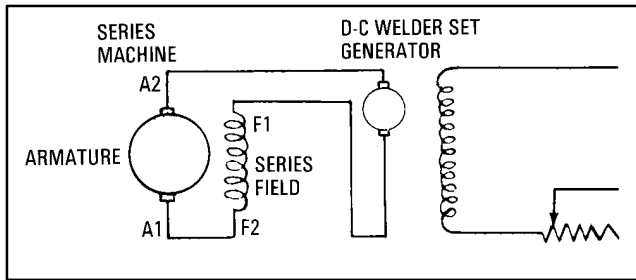

FIG. 7. DIAGRAM OF CONNECTIONS TO RUN A SERIES MACHINE FROM A WELDING SET. E-28718.
4. Refer to Fig. 7 for diagram of connections to run a series machine from a welding set. Connect